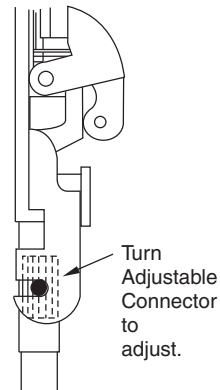

Figure 16
2. Turn adjustable rod connector until head touches underside of slide. (Figure 16)